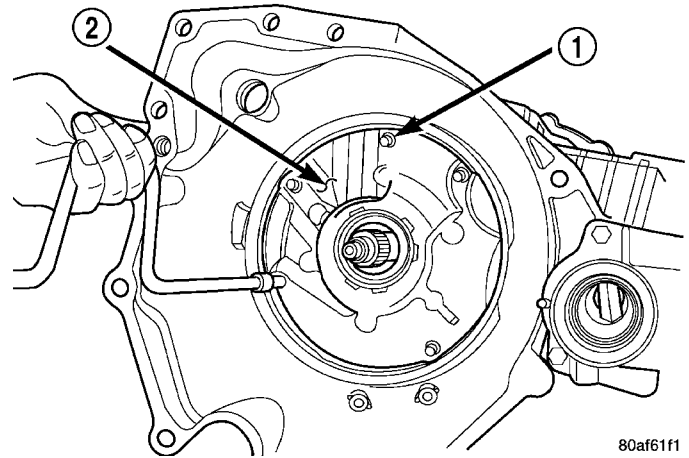

Fig. 148 Install Pump-to-Case Bolts
(58) Install oil pump-to-case bolts and torque to 27 N·m (20 ft. lbs.) (Fig. 148).